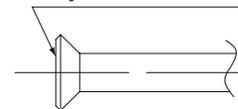

Fig. 15
- When making a flare connection, coat the flared inner surface only with ether oil or ester oil. (Refer to **Fig. 15**) Then, turn the flare nut 3 to 4 times with your hand and screw in the nut.